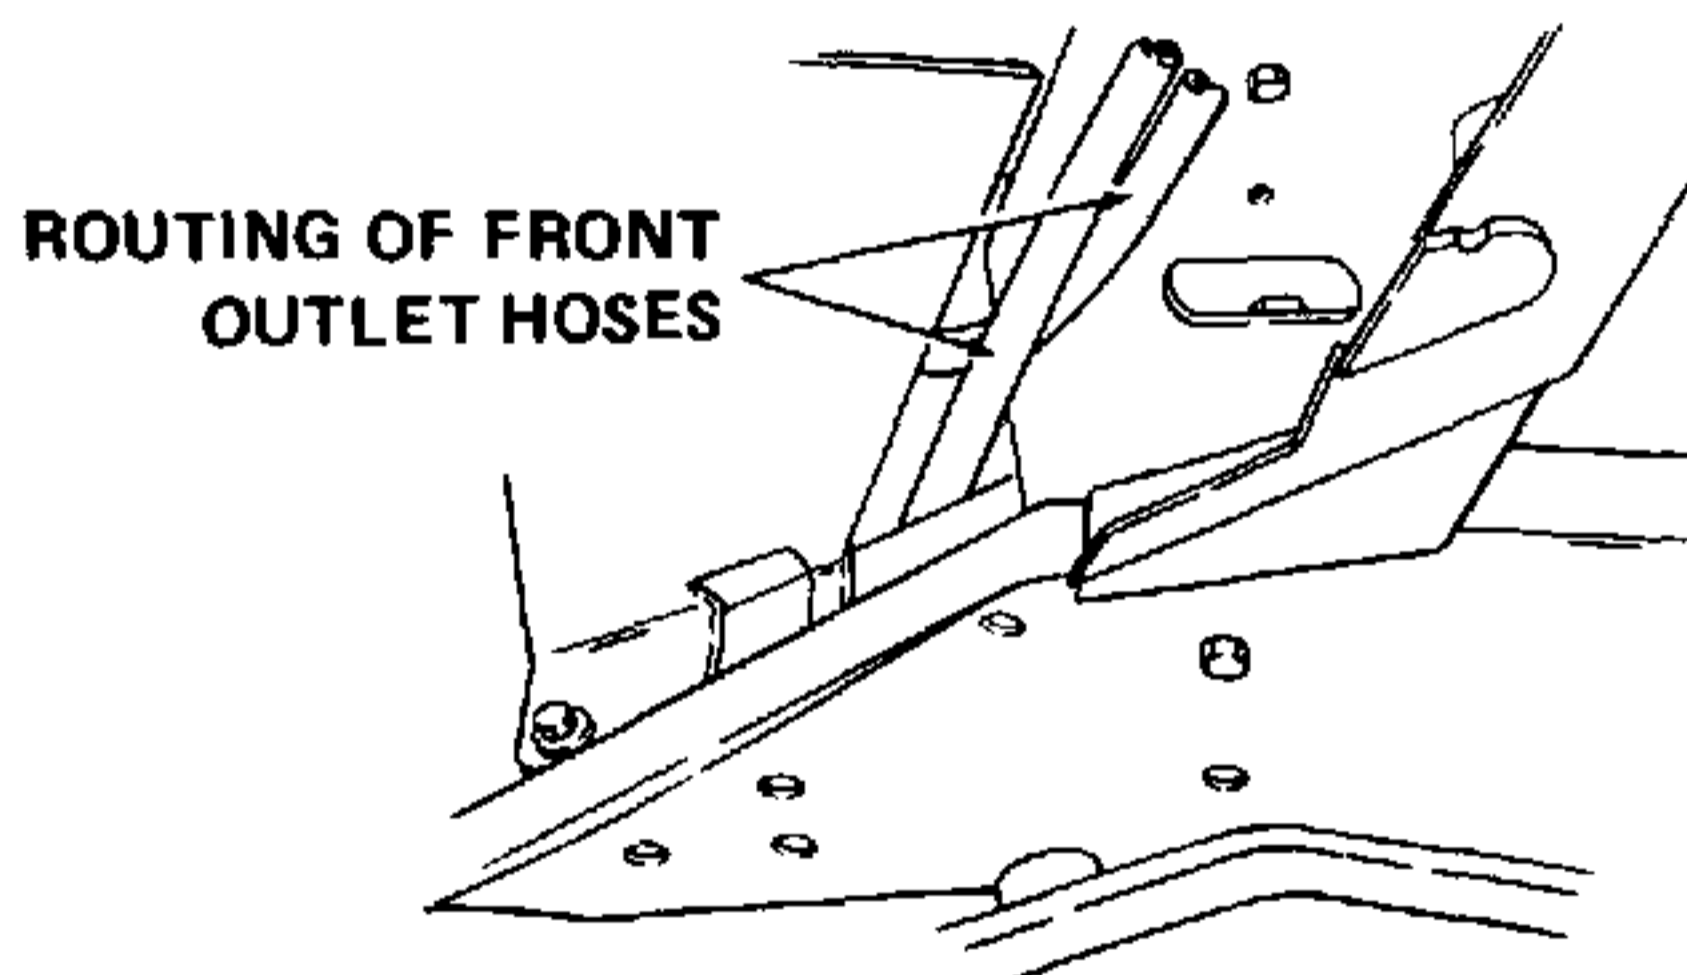

Figure 7-88. Routing of Front Outlet Hoses (Models 1541, 1862, 1882 and 2082 Only).
- b. For tractor Models 1541, 1862, 1882 and 2082, route hoses through opening shown in Figure 7-88. Push hoses across to right side of tractor and carry forward to front of tractor.